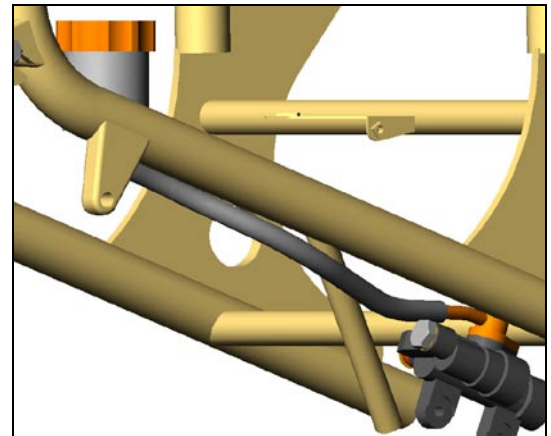

Figure 15
- g. Connect reservoir hose to new inlet fitting, re-routing line outside of bracket support tube as shown. Figure 15